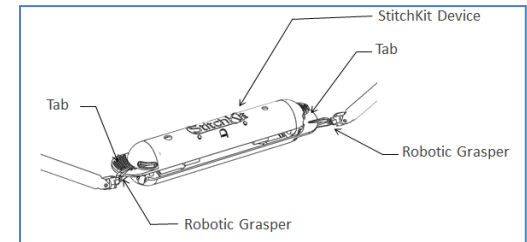

Figure 5 - Opening the StitchKit® Device using Robotic Graspers and tabs
- 5.4. Place the used needle (with remnant suture removed) into the disposal compartment via the trap door. It is typically easier to place the blunt aspect of the needle into the compartment first (Figure 5).